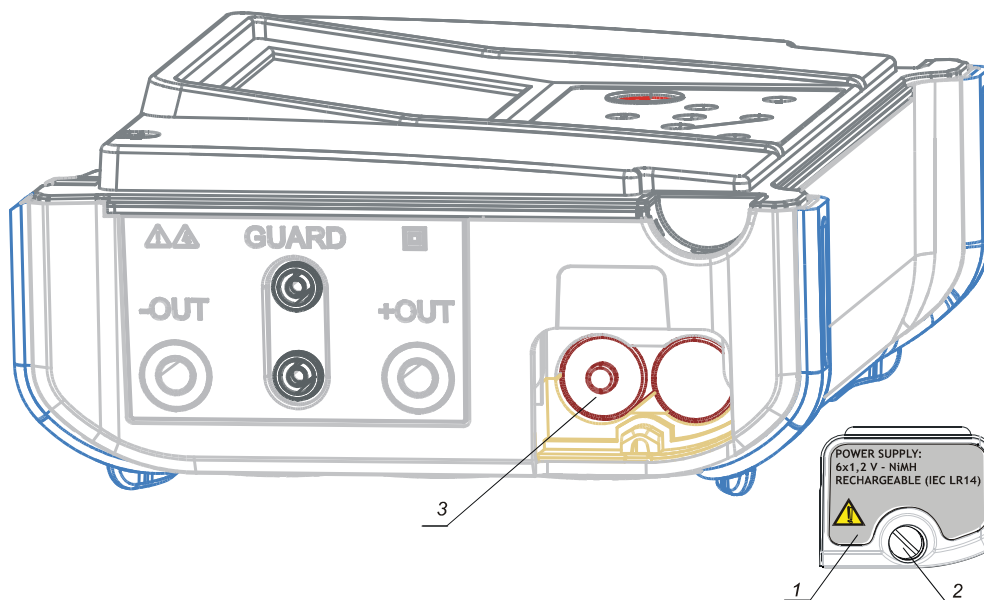

Fig. 32. Correct polarity of inserted batteries
Battery cells are stored in the bottom section of the instrument casing under the battery cover (see Fig. 32). When inserting batteries for the first time please note the following:
- Insert the batteries correctly (see Fig. 32), otherwise the test instrument will not operate!
Battery cells are stored in the bottom section of the instrument casing under the battery cover (see Fig. 32). In case the batteries become defective please note the following:
- Insert the batteries correctly (see Fig. 32), otherwise the test instrument will not operate and battery may be discharged!
(dimensions: diameter = 26 mm, height = 46 mm). See the next Fig. 32 for correct polarity of the batteries.